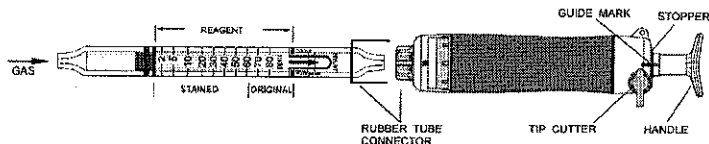

Fig.1
- ② Insert the detector tube into the aspirating pump securely as shown in Fig.1. (Arrow mark shall point to the pump.)
- ③ Align the guide marks on the shaft and stopper of the aspirating pump.
- ④ Pull the pump handle at a full stroke until it locks and wait for 1.5 minutes or until the completion of sampling is confirmed with the flow indicator of the pump. (See descriptions about the flow indicator in the instruction manual of the pump.)
- ⑤ Push back the handle without removing the detector tube from the rubber tube connector so that air in the pump will be discharged perfectly. Then repeat the step ③~④ once more.
- ⑥ On completion of sampling, read the scale at the maximum point of the stained layer.
- ⑦ When the concentrations are below the scale range, 4 pump strokes can be used to determine these lower concentrations.
- ⑧ When the concentrations are over the scale range, 1 pump stroke can be used to determine these higher concentrations.